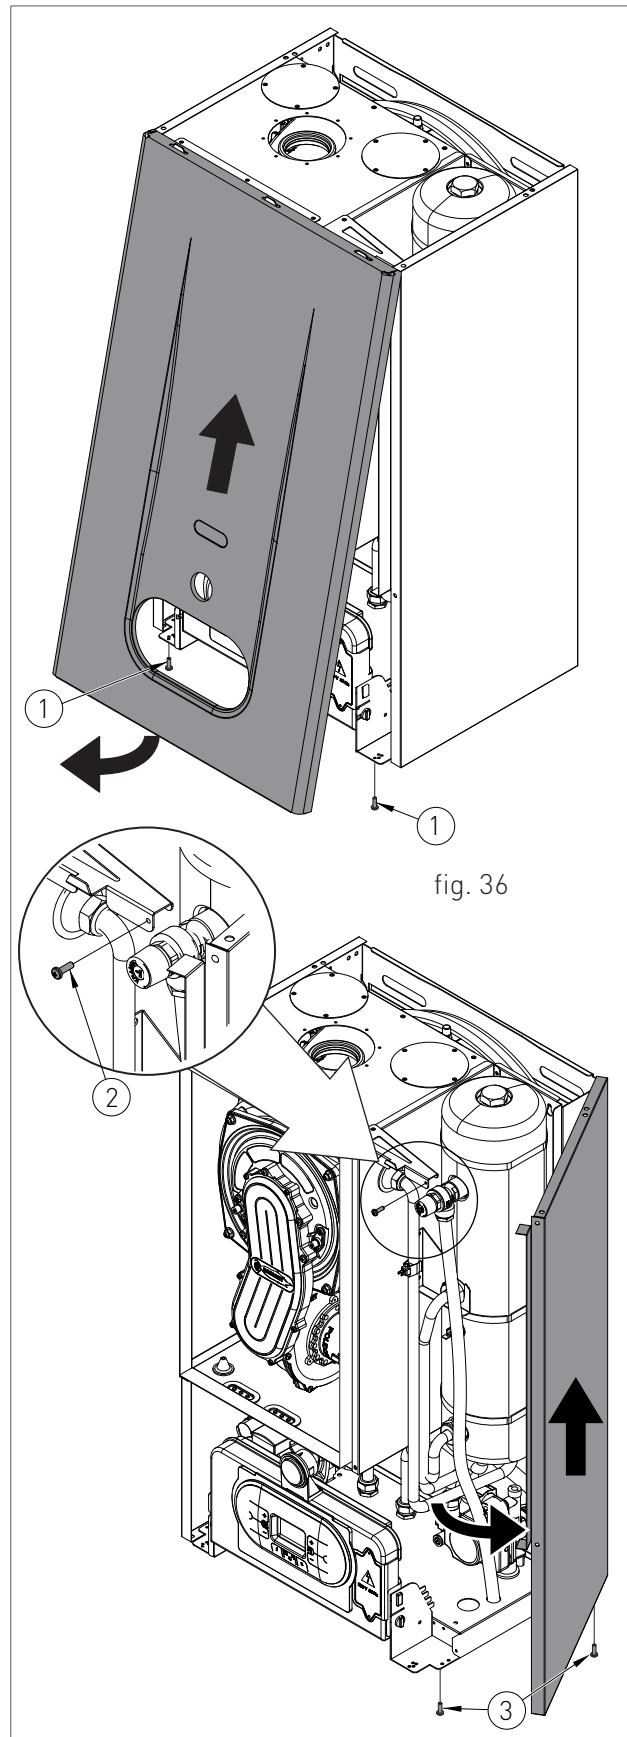

fig. 36
- › remove the fastening screws (1 - fig.36) placed on the lower edge of the front panel;
- › grab the front panel from the bottom and remove it pulling it towards you and then upwards (see fig. 36).
- › remove the fastening screw (2 - fig.36) placed on the front edge of the side panel;
- › remove the fastening screws (3 - fig.36) placed on the lower edge of the side panel;
- › grab the bottom of the panel and remove it by moving it sideways and then pulling it upwards (see fig. 36).